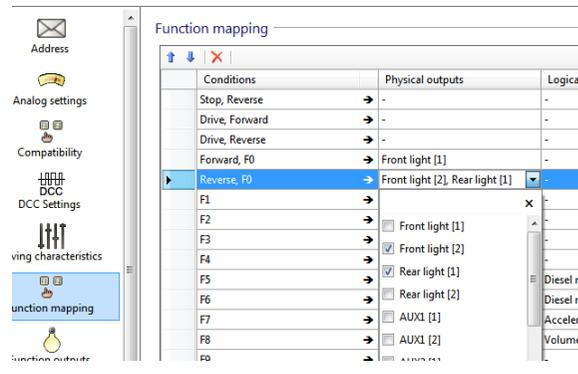

Fig. 30.: Setting a Physical output for Front / Rear
Complicated lighting configurations can be set by selecting more than 1 output. For example, we wish to have the front light on bright when running forward, and dim when running in reverse. This can be done setting front light(1) and front light(2) on, and then setting the function outputs for front light(1) as on and front light(2) as dim in the function outputs section. (See figure 30 and 31)